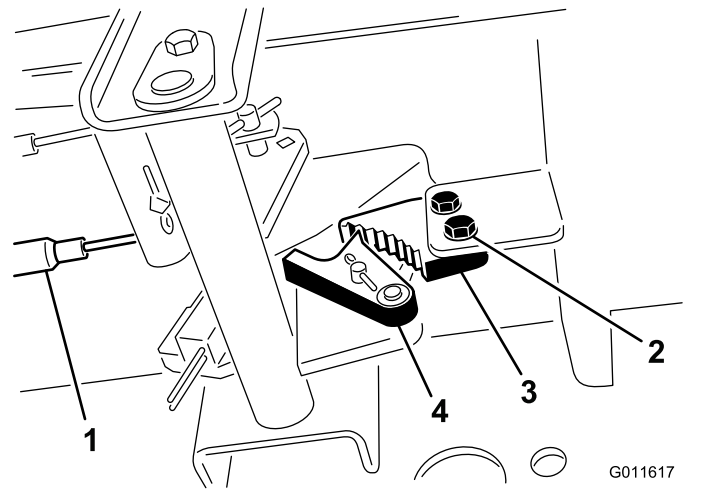

Figure 48
1. Loosen the 2 screws securing the parking-brake pawl to the frame (Figure 48).
2. Press the parking brake pedal forward until the brake detent completely engages on the brake pawl (Figure 48).